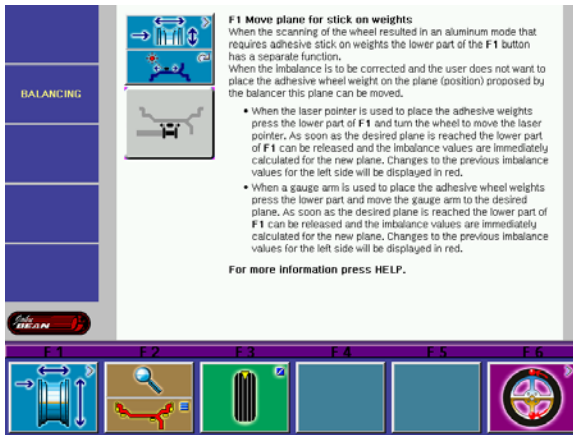

Figure 17
- Press the HELP key (See Figure 17)